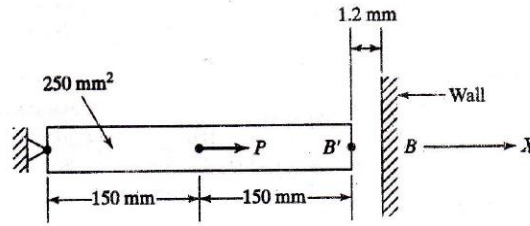

Figure 3
- (b) For the structural system shown in Figure 3, determine displacements, stresses and support reactions using penalty approach. Assume point load $P = 60,000 \text{ N}$ and Young's modulus of material $E = 20,000 \text{ N/mm}^2$ 07